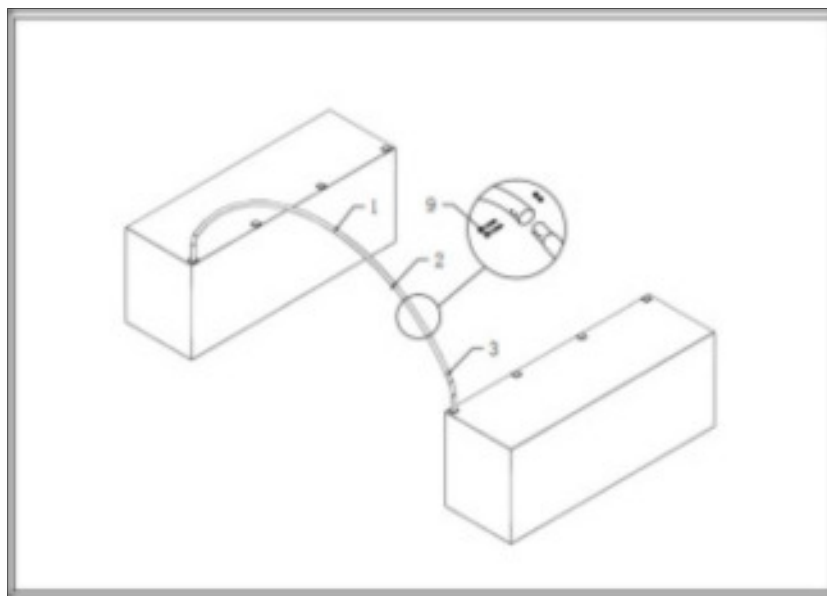

Figure 3
1. As shown in figure 3, connect the Top bent tube (part code 1), the Middle bent tube (part code 2) and the Sidewall bent tube (part code 3) with the Bolts M8x70 (part code 9); these make one group of arches. Please NOTE the direction of the bolt. **DO NOT** install the bolts on the top of the truss where the fabric will rest.